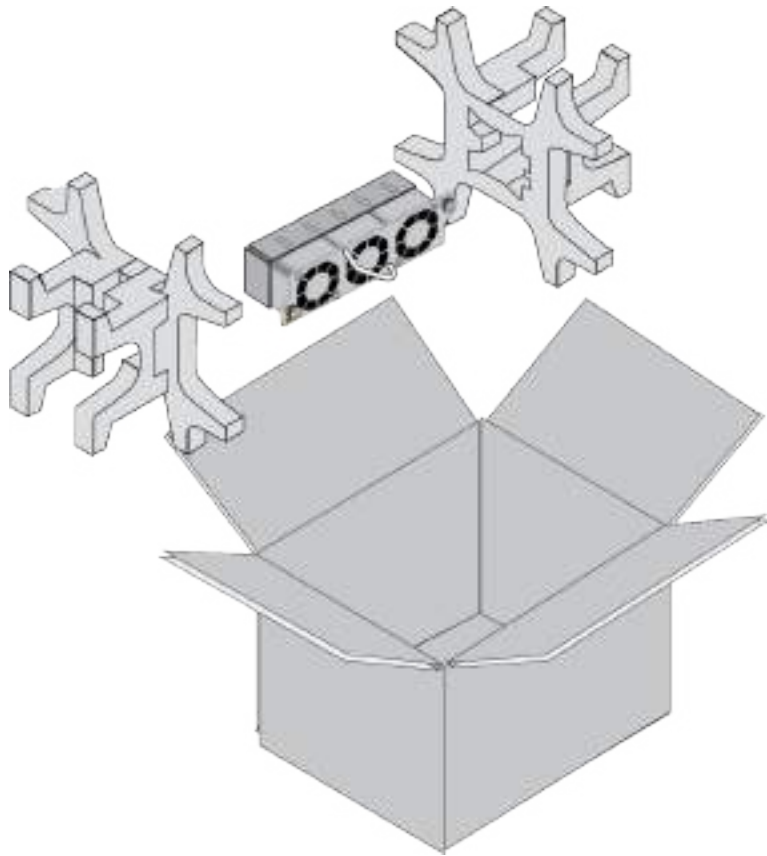

Figure 141. Removing the Fan Module from the Shipping Container
1. Remove the new fan module from its shipping box. Refer to Figure 141.